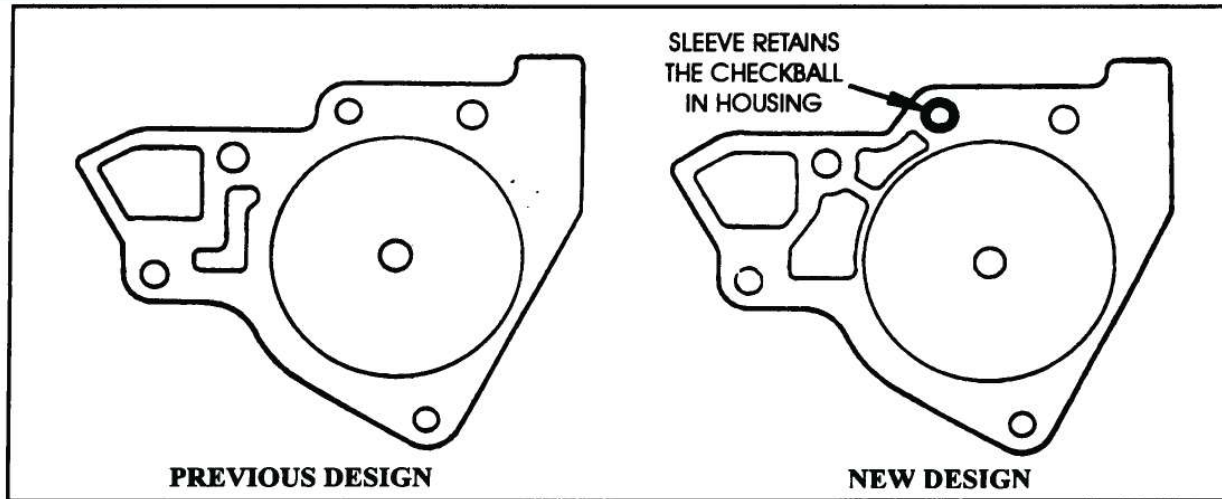

Figure 151
12. Inspect the 1-2 accumulator housing for free movement of the checkball in the capsule if your model is so equipped (See Figure 151).
13. *All models built after March 14, 1987, were built with the new 1-2 accumulator housing and the new spacer plate (See Figure 151).*